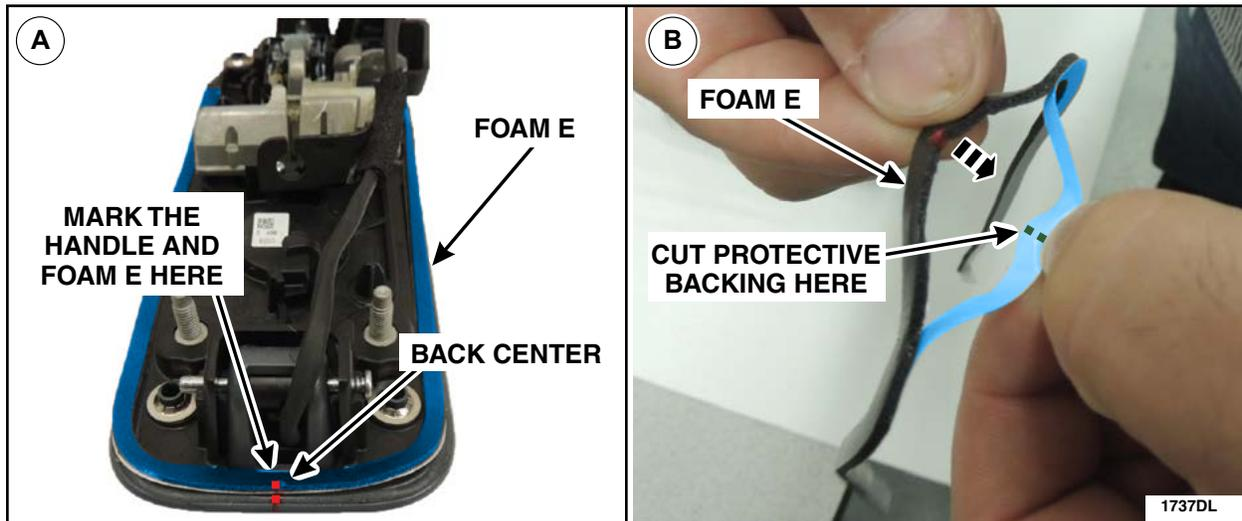

FIGURE 14
- A. Lay out Foam E on the exterior door handle and mark center as shown in Figure 14.
- B. Remove Foam E from the door handle and remove the back center portion of the adhesive backing then cut the protective backing in half. See Figure 14.